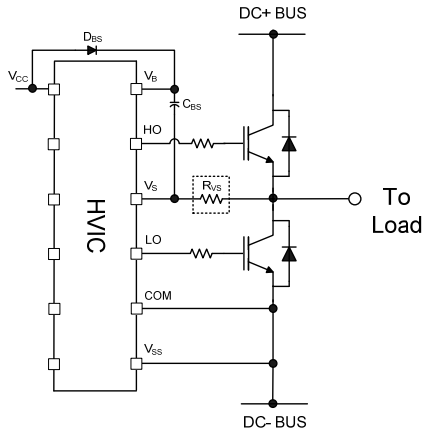
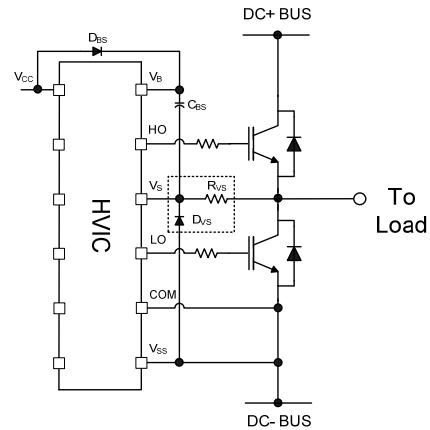

Figure 36:  $V_S$  resistor
Figure 37:  $V_S$  clamping diode
**Routing and Placement:** Power stage PCB parasitic elements can contribute to large negative voltage transients at the switch node; it is recommended to limit the phase voltage negative transients. In order to avoid such conditions, it is recommended to 1) minimize the high-side emitter to low-side collector distance, and 2) minimize the low-side emitter to negative bus rail stray inductance. However, where negative  $V_S$  spikes remain excessive, further steps may be taken to reduce the spike. This includes placing a resistor (5  $\Omega$  or less) between the  $V_S$  pin and the switch node (see Figure 36), and in some cases using a clamping diode between  $V_{SS}$  and  $V_S$  (see Figure 37). See DT04-4 at [www.irf.com](http://www.irf.com) for more detailed information.